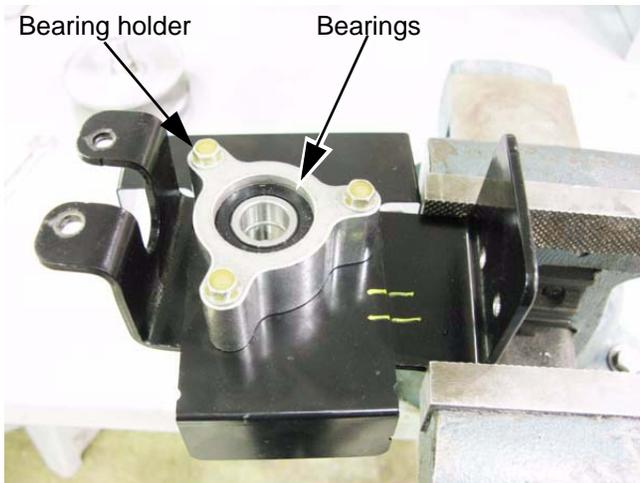

Figure 6.46
- 9d. Clamp the variable speed pulley bracket into a vise. Match-mark the bracket to the belt keeper. See Figure 6.46.